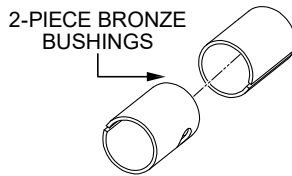

Figure 53. Bronze Bushings
5. Examine the **bronze trowel arm bushings** (Figure 53), and clean them if necessary. Replace the bushings if they are worn or out of round.